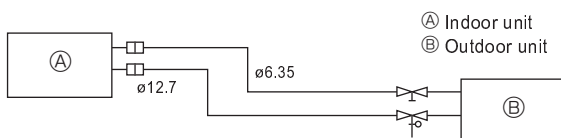

Fig. 5-2
(1) Table below shows the specifications of pipes commercially available. (Fig. 5-2)